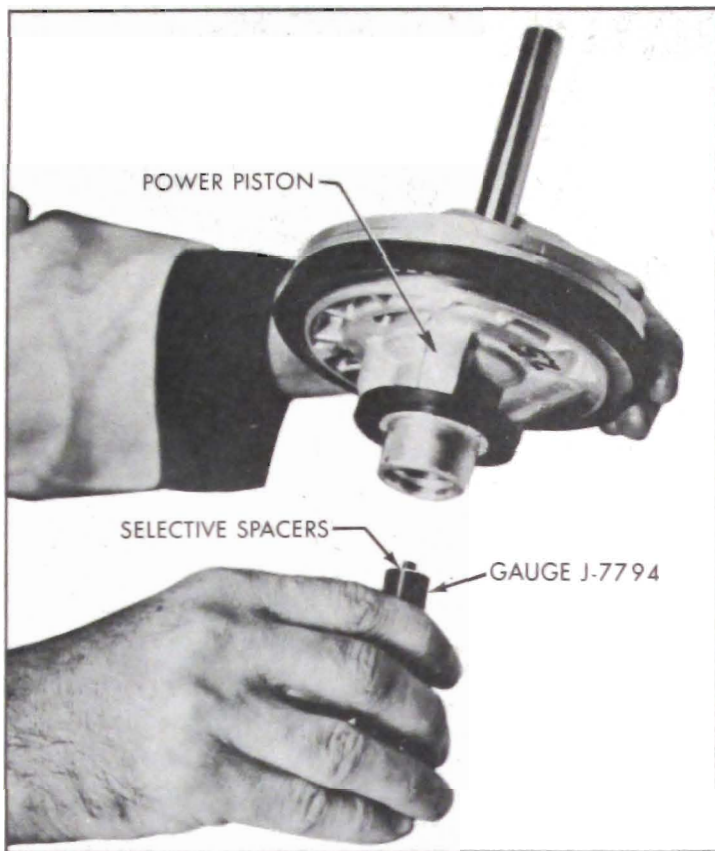

Figure 9-27—Inserting Gauge and Spacers
16. Set spacers (shims) on Gauge J-7794. Hold power piston assembly with air valve bore down and insert gauge and spacers as shown in figure 9-27. (The body of the gauge sets against the smaller reaction plate while the pin of the gauge extends through to contact the hydraulic piston.) Now turn whole assembly over to bring gauge on top and observe gauge pin in gauge body. **CAUTION:** *Hydraulic master cylinder piston must be at lowest limit for correct use of gauge. Do not hold assembly by hydraulic piston or allow hydraulic piston to contact bench.*